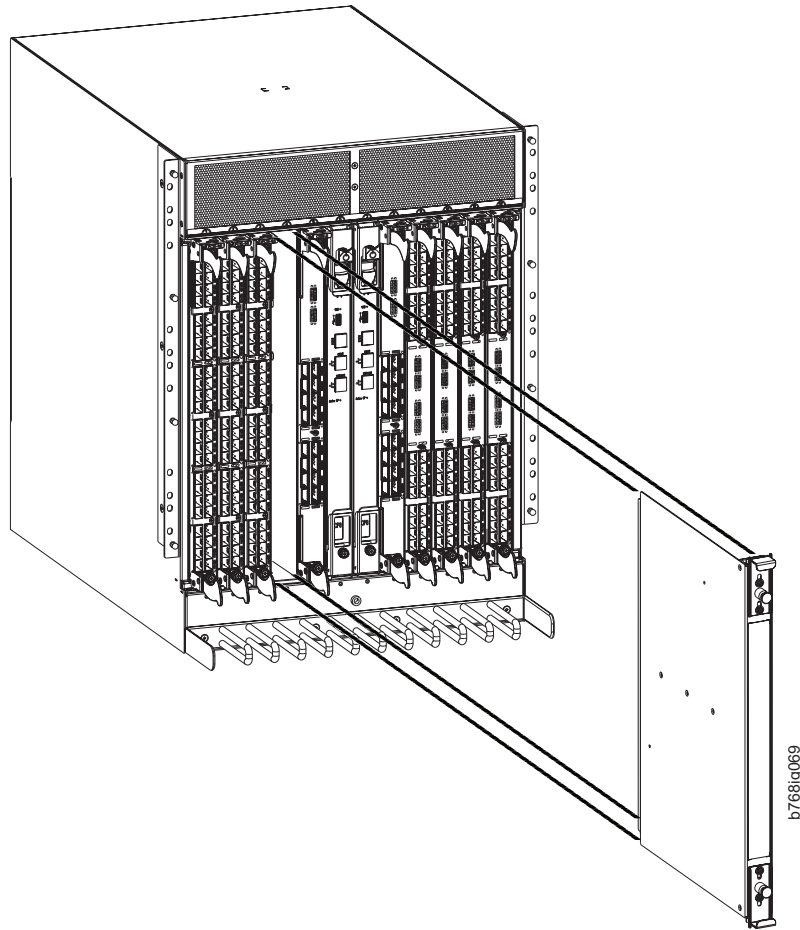

Figure 30. Filler panel removal and installation
3. Using the tabs, pull the filler panel out of the chassis. (See Figure 30 on page 85.)